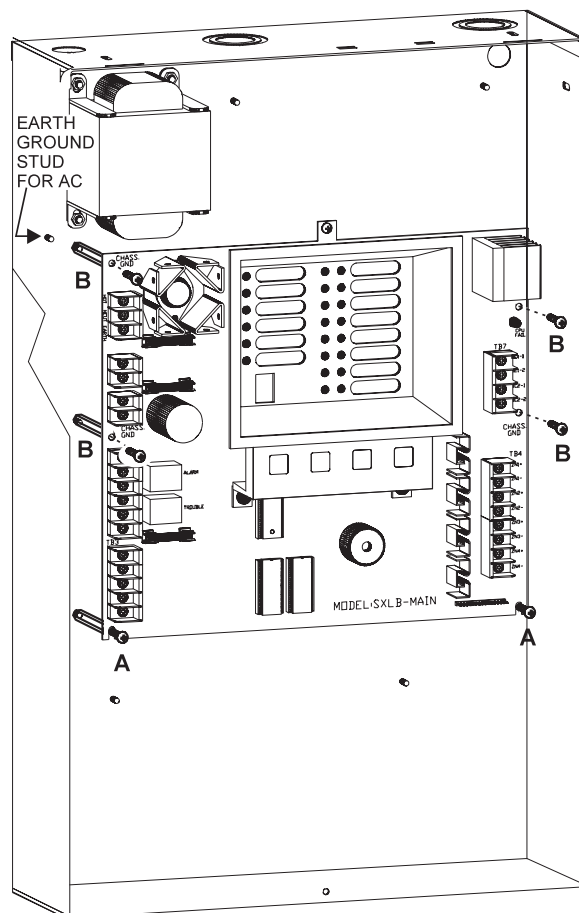

Figure 6
5. **Install the Main board.** Mount the Main board to the standoffs in the center of the enclosure (Refer to Figure 6).
- labeled **A** in Figure 6, leaving a 1/4 inch gap between the standoff and the head of the screw.
- a. Run Earth Ground from a suitable source to the Earth Ground stud on the chassis (See Figure 6 for the location of the stud). Secure in place using the two #8 nuts provided. Check local requirements. **Conduit is not an acceptable ground.**